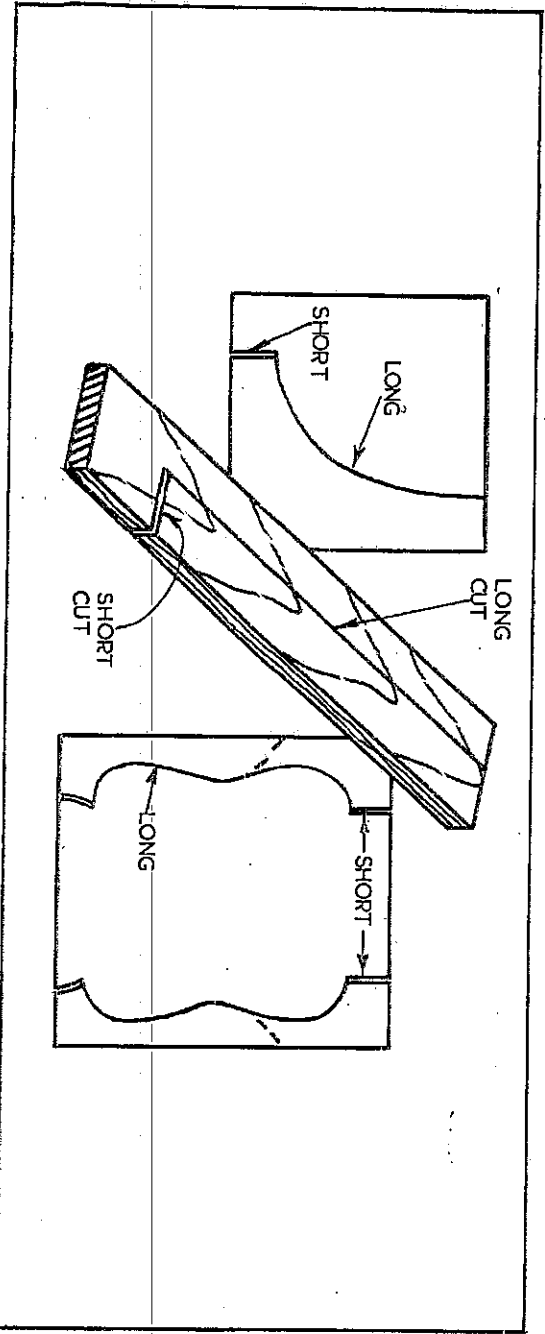

FIG 35
2. Make Short Cuts First SEE FIG. 35.